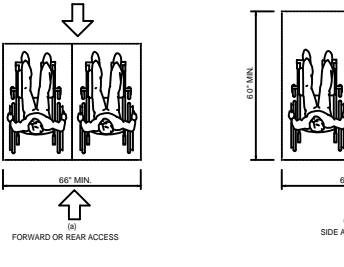

FIG. 46 SPACE REQUIREMENTS FOR WHEELCHAIR SEATING SPACES IN SERIES
- 4.33.2 SIZE OF WHEELCHAIR LOCATIONS. EACH WHEELCHAIR LOCATION SHALL PROVIDE MINIMUM CLEAR GROUND OR FLOOR SPACES AS SHOWN IN FIG. 46.